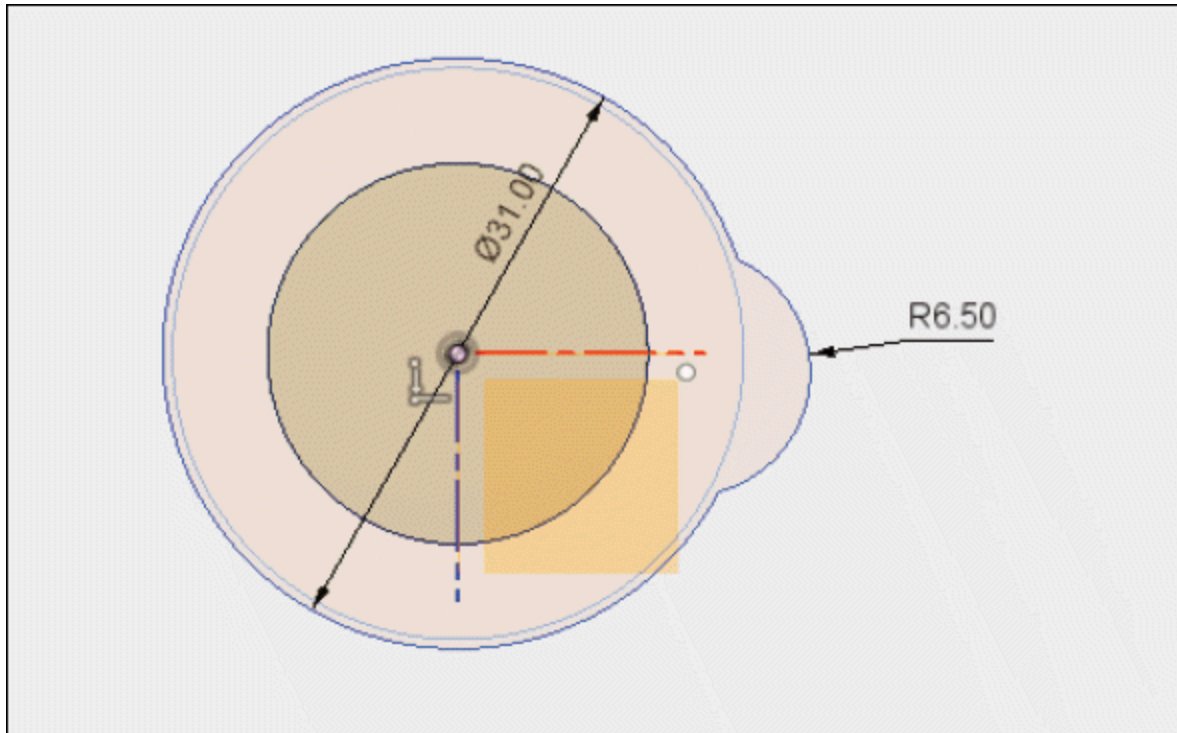

Figure-83. Creating sixth sketch
- Create the sketch as shown in Figure-83 with the help of **Circle**, **Trim**, and **Arc** tool.